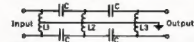

FIG. 8.
3. Install a "high pass" filter if interfering signal is below 30 Mcs. (see Fig. 8).